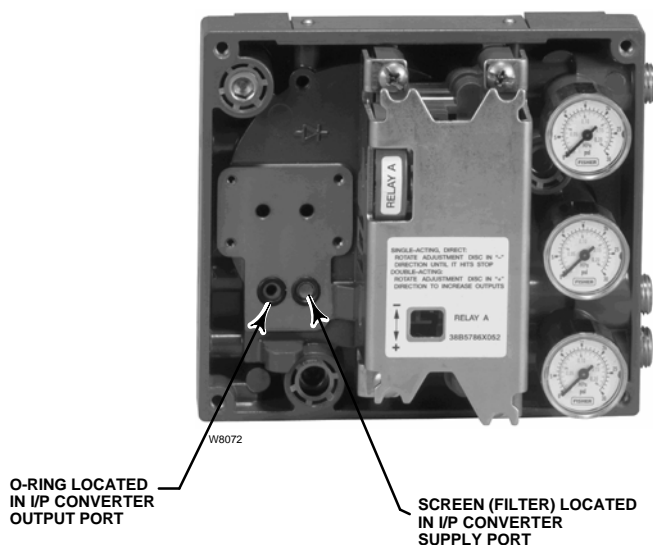

Figure 7-3. I/P Filter Location
1. Remove the I/P converter (key 41) and shroud (key 169) as described in the Removing the I/P Converter procedure.
2. Remove the screen (key 231) from the supply port.
3. Install a new screen in the supply port as shown in figure 7-3.
4. Inspect the O-ring (key 39) in the I/P output port. if necessary, replace it.
5. Reinstall the I/P converter (key 41) and shroud (key 169) as described in the Replacing the I/P Converter procedure.
1. Refer to figure 7-3. Inspect the condition of the O-ring (key 39) and screen (key 231) in the module